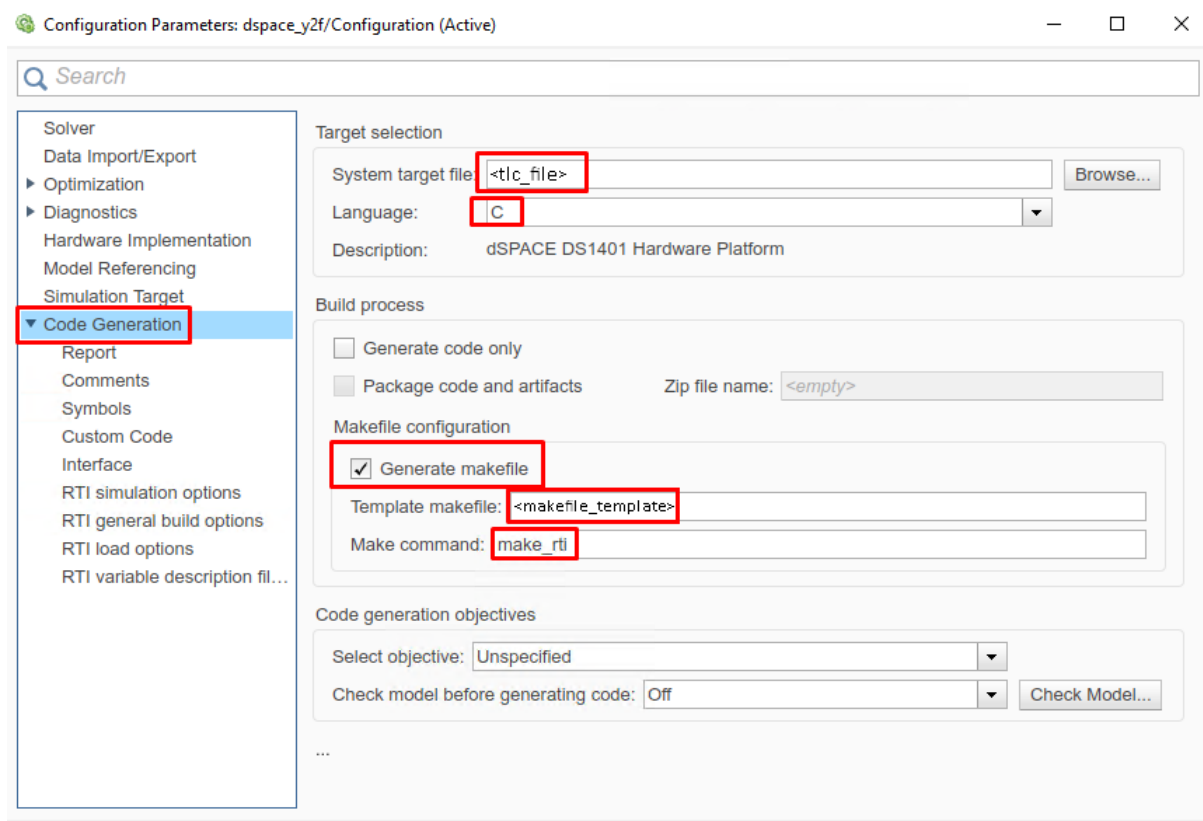

Figure 13.23: Set the Simulink code generation options.
- (Figure 13.23) In the “Code Generation/RTI general build options” tab, set the options (for `<tlc_file>` and `<makefile_template>` see *Simulink Model HW Target Configuration*):